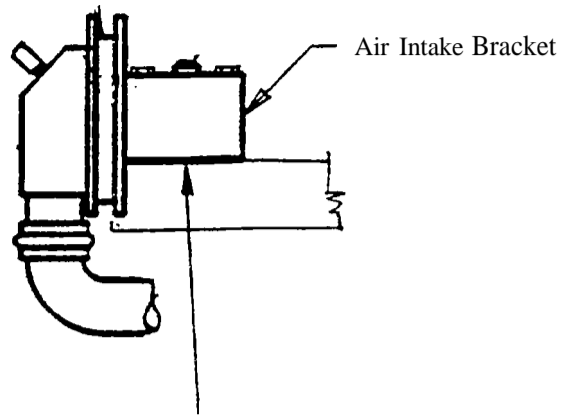

Figure 2. Gasket between Air Intake Bracket and Intake Manifold.
- (WEEKLY) 4. ( ) A copper gasket is installed between the air intake bracket and the engine as shown in Figure. 2.